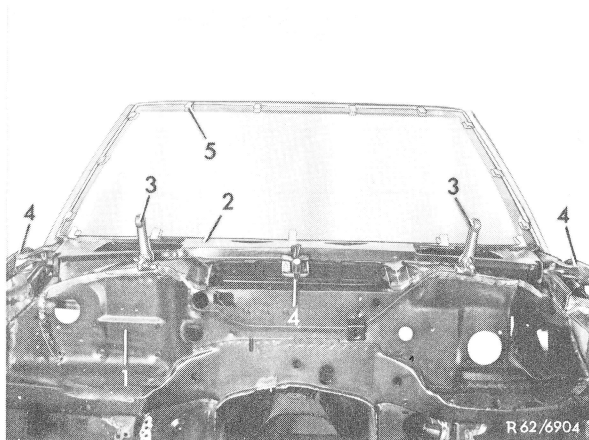

Figure 2
- 13 Fit front wall (1) and tack with sheet metal screws (Fig. 2).
- 15 Fit outside center piece under windshield (2) and attach with hand vice (3) or polygrip pliers (4) (Fig. 2)
- 16 Fit windshield with assistance of profile blocks (5).